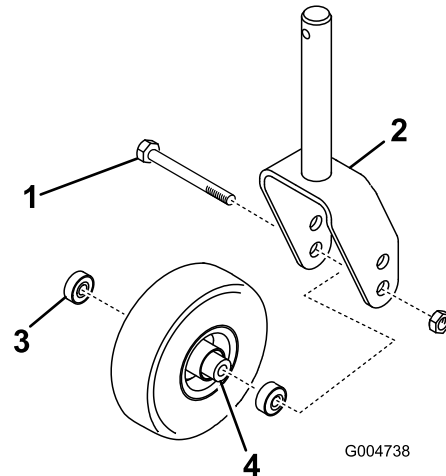

Figure 27
1. Remove the locknut from the bolt holding the castor wheel assembly between the castor fork (Figure 27). Grasp the castor wheel and slide the bolt out of the fork or pivot arm.
2. Remove the bearing from the wheel hub and allow the bearing spacer to fall out (Figure 27). Remove the bearing from the opposite side of the wheel hub.